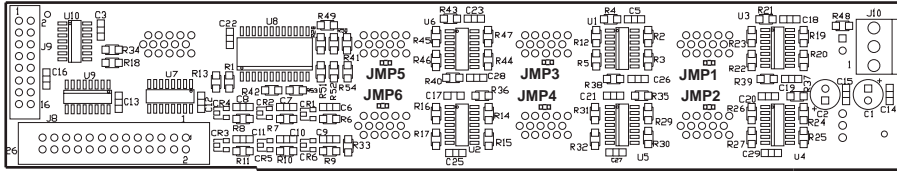

FIGURE 5-A
**VGA connector pin-9** - If your equipment/application requires that the pin-9 signal of the selected input be passed to output connector pin-9, it will be necessary to add (solder) jumpers (JMP1 = Input 1, JMP2 = Input 2, etc.) onto the inside of the rear panel (see Figure 5-A). Each jumper consists of 2 etch/solder pads separated by approximately 1/16th inch gap. Connect (solder a wire across) the 2 pads for the desired input/jumper (example: for Input 1, connect the JMP1 solder pads). Pin-9 pass through may be enabled for as many inputs as desired. To access the inside of the rear panel, **DISCONNECT POWER** and remove four screws from the top of the switcher. The bottom panel can then be removed. Unplug the three cables connected to the video circuit card enabling it to be removed.